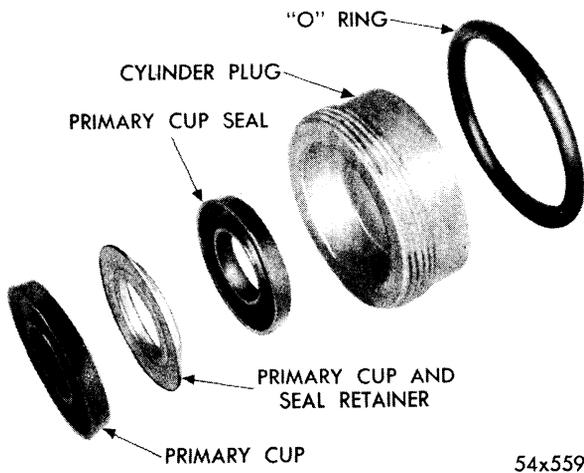

Fig. 82—Primary Cup Parts (Disassembled View)
- (2) Disassemble cylinder plug assembly (by hand) by removing primary cup, retainer and primary cup seal from cylinder plug. Primary cup is easily removed by gripping the inner cup lip between thumb and forefinger. Discard cup and seal; do not discard retainer. (Refer to Fig. 82.)